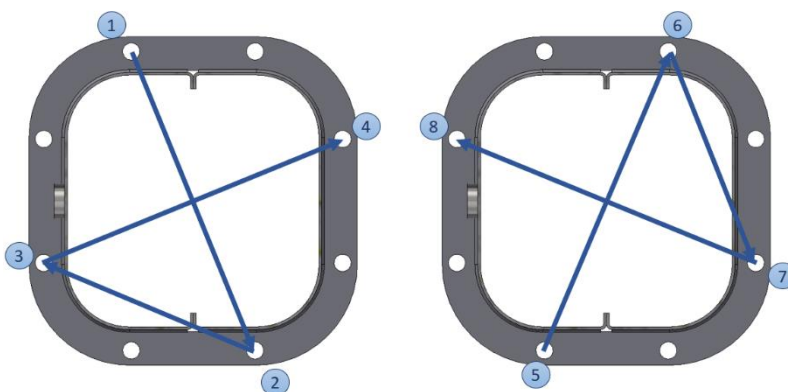

fig. 33
- 6) For correct tightening in torque of the nuts/bolts at the bottom of the column all of the nuts/bolts need to be brought into contact with the plate applying a light torque in order to prevent free movement. Once in this situation, using a torque wrench, tighten the nuts in torque (see the nuts/bolts clamping table on page 9 for the correct value) following the shown cross pattern (fig. 33) and being careful that